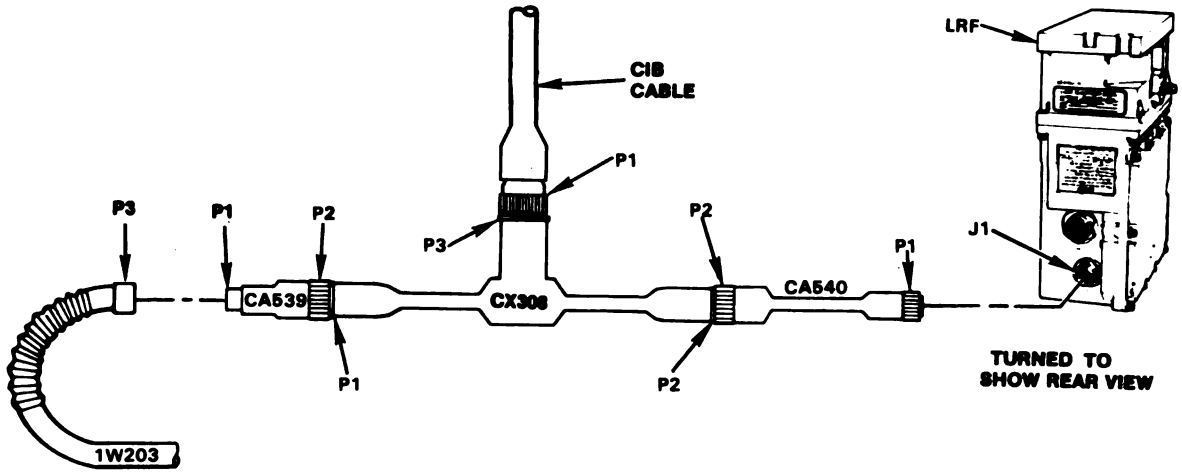
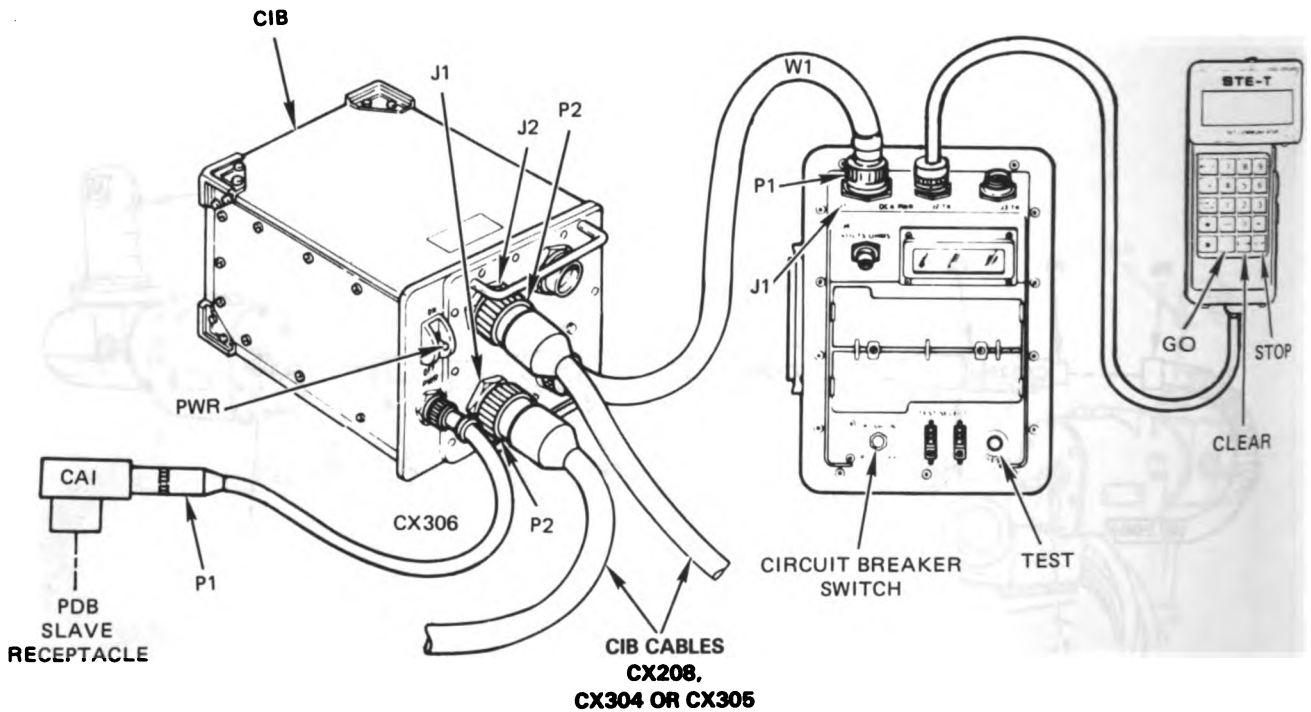

Figure 10-114. STE Turret Cable Hookup Between LRF-J1 and 1W203-P3
Figure 10-115. STE Turret Cable Hookup To CIB
ASSEMBLE CX305 CX308 and CA539/40	<ul style="list-style-type: none"> ● Connect P1 on CIB cable CX305 to P3 on DBA CX308. ● Connect P2 on adapter CA539 to P1 on DBA CX308. ● Connect P2 on adapter CA540 to P2 on DBA CX308. ● See figure 10-114.
CONNECT CIB J2 TO TNB TJ2 (USE CX208)	<ul style="list-style-type: none"> ● If connected, disconnect P2 on CIB cable CX305 from CIB-J2. ● See figure 10-115. ● Connect P1 on CIB cable CX208 to TEST 2 on turret networks box. ● Connect P2 on CIB cable CX208 to CIB-J2. ● See figure 10-109.
CONNECT CX305 P2 TO CIB J2	<ul style="list-style-type: none"> ● Connect P2 on CIB cable CX305 to CIB-J2. ● See figure 10-115.
CONNECT DBA BETWEEN 1W203 ← → LRF J1	<ul style="list-style-type: none"> ● Connect P1 on adapter CA540 to J1 on laser rangefinder. ● Connect 1W203-P3 to P1 on adapter CA539. ● See figure 10-114.
CONNECT DBA FROM 203 ↔ LRF J1	<ul style="list-style-type: none"> ● Disconnect 1W203-P3 from P1 on adapter CA539. ● Disconnect P1 on adapter CA540 from J1 on laser rangefinder. ● See figure 10-114. ● Disconnect P2 on CIB cable CX305 from CIB-J2. ● See figure 10-115.
- See figure 10-115.
- See figure 10-114.
- Connect CX305-P2 (1) to breakout box (2).
- Connect CX305-P1 (3) to CX307-P3 (4).